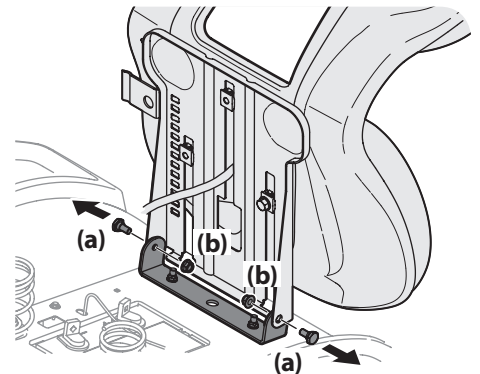

Figure 2-2
- Remove the two shoulder screws (a) and flange lock nuts (b) in the seat pan as shown in Figure 2-2.